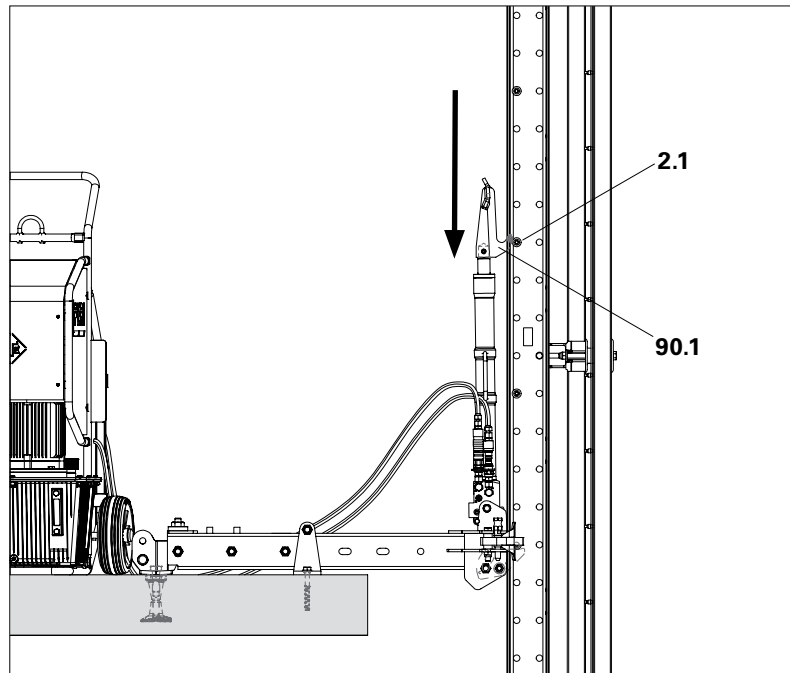

Fig. D5.06
1. Retract hydraulic cylinder until it tilts backwards, claw (90.1) slides past the Spacers positioned underneath and engages again below. (Fig. D5.06)
2. Pull Climbing Rail inwards by means of the Guide-in Tool RCS (98).
5. Continue climbing procedure. (Fig. D5.06)